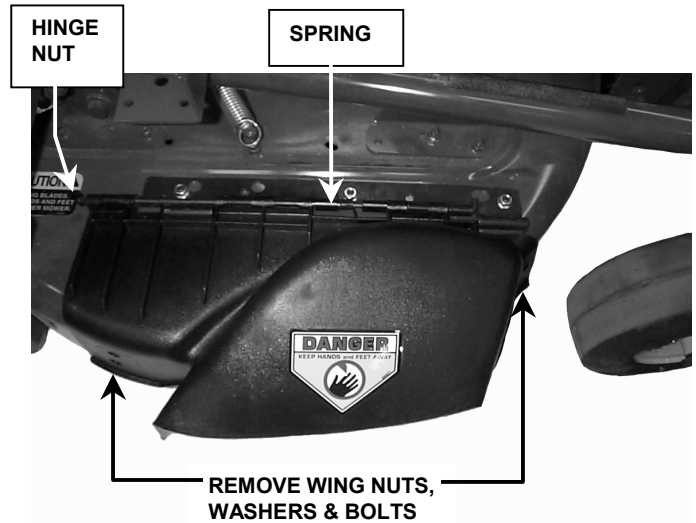

FIGURE 1.5
- Remove wing nuts, flat washers and bolts securing deflector to side of deck. Save hardware. See Figure 1.5.
- Remove hinge nut, spring, and hinge from deflector. Remove deflector. See Figure 1.5.